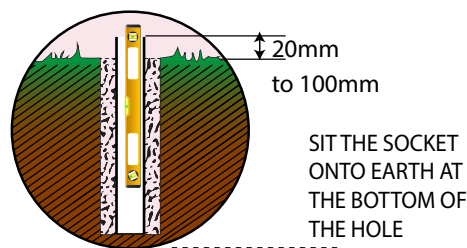

Fig 1b,
- 3, For a temporary installation use a ground auger and pack with sharp sand and soil to secure the ground socket, use a level to check the socket is vertical and plumb checking at intervals as you infill the hole. Make sure there is minimum of 20mm and maximum if 100mm of socket left above ground. (see fig1b)